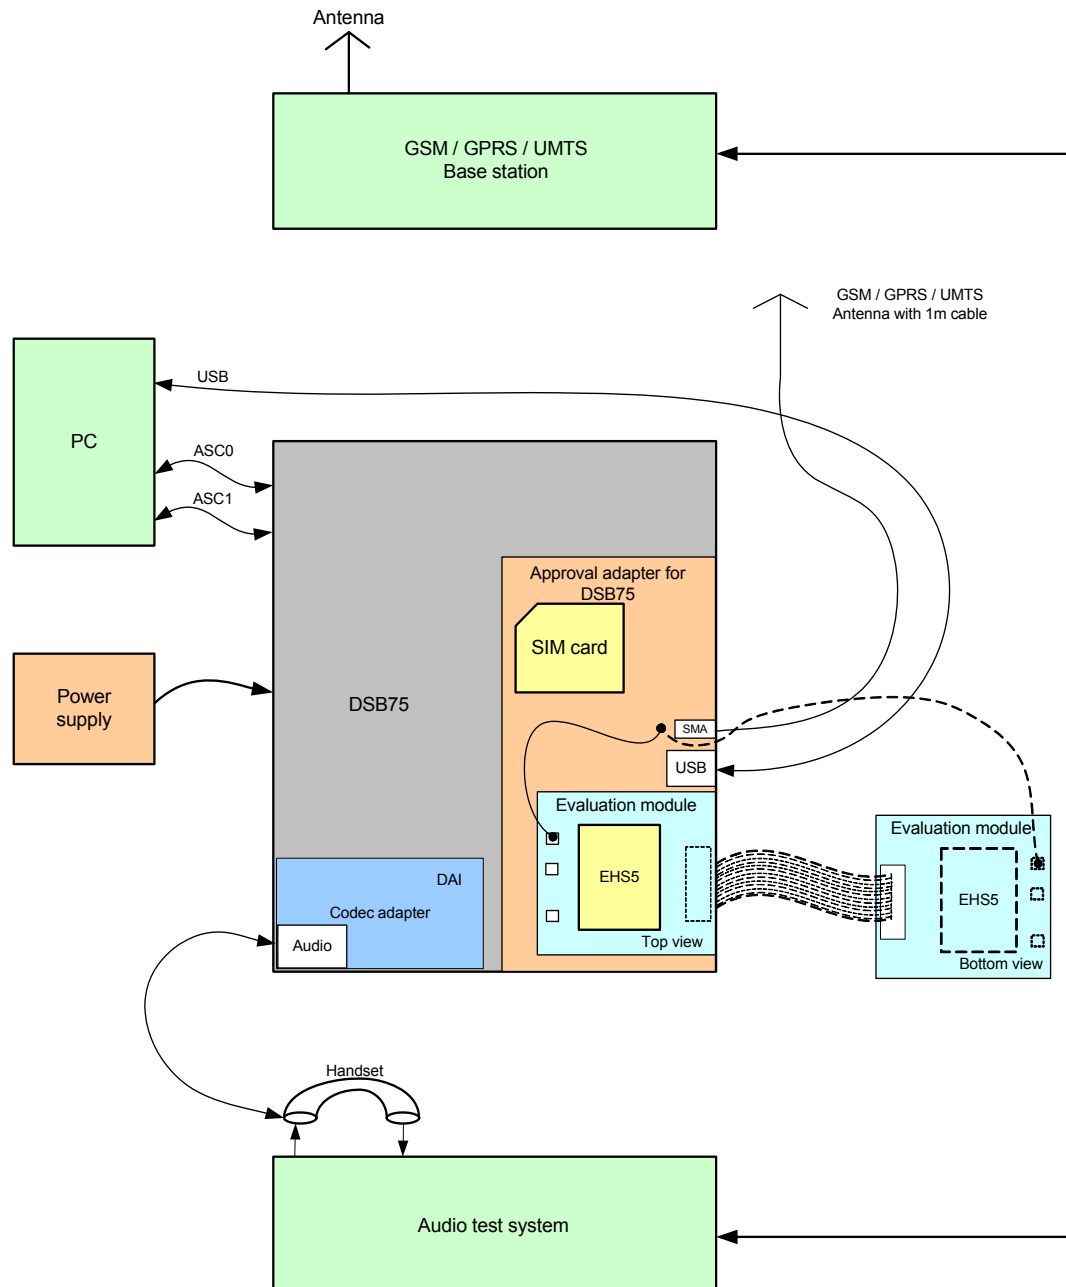

Figure 15: Reference equipment for Type Approval
1. For RF performance tests a mini-SMT/U.FL to SMA adapter with attached 6dB coaxial attenuator is chosen to connect the evaluation module directly to the GSM/UMTS test equipment instead of employing the SMA antenna connectors on the EHS5-E/EHS5-USR4-DSB75 adapter as shown in Figure 15. The following products are recommended: